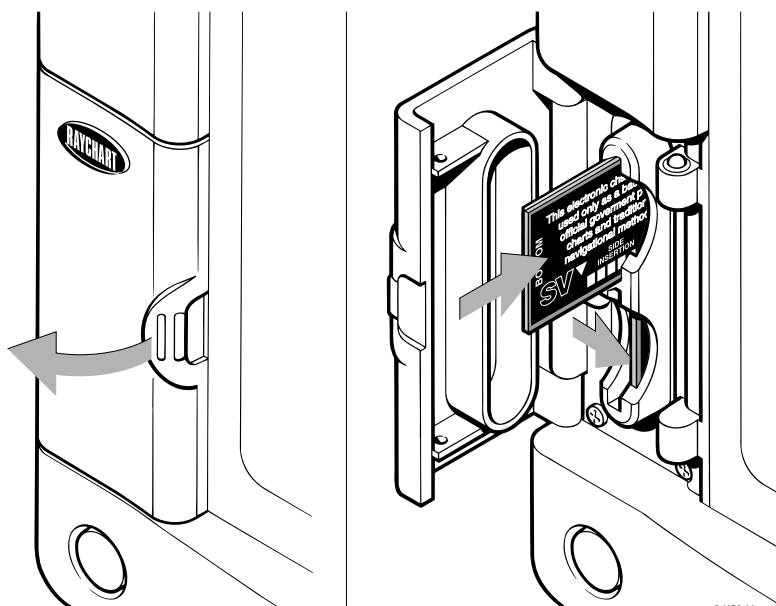

Figure 3-1: Chart Card Insertion/Removal
► Refer to *Figure 3-1*:
3. Hold the card with the title label towards the left, as shown in *Figure 3-1*.